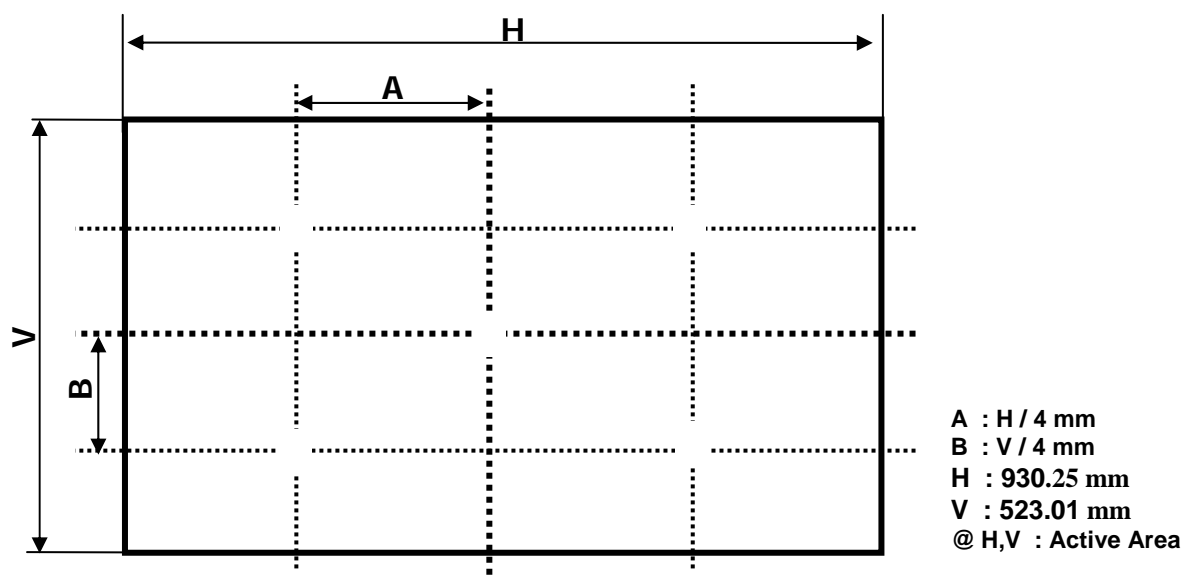

FIG.2 Measure Point for Luminance
n = the Position number(1, 2, 3, 4, 5), For more information, see FIG. 2.
2. Surface luminance are determined after the unit has been 'ON' and 30min after lighting the backlight in a dark environment at 25±2°C. Surface luminance is the luminance value at center 1-point across the LCD surface 50cm from the surface with all pixels displaying white. For more information see the FIG. 2.
For more information, see the FIG. 2.